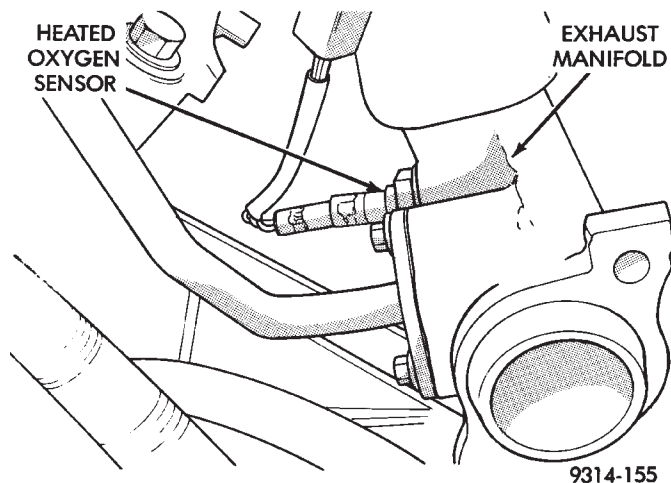

Fig. 7 Heated Oxygen Sensor Removal/Installation—3.3L Engine
- (1) Disconnect electrical connector.
- (2) Use a crow-foot wrench or open end wrench to remove heated oxygen sensor (Fig. 7).